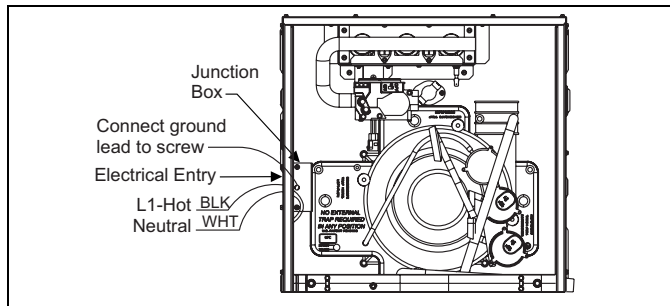

FIGURE 17: Electrical Wiring
installed into the unit opening and the junction box. In the junction box there is a black wire, a white wire and a green ground screw. Connect the power supply as shown on the unit's wiring label located on the inside of the blower compartment door, or the wiring schematic in this section. Connect the black wire to L1 (hot) from the power supply. Connect the white wire to neutral. Connect the ground wire (installer-supplied) to the green (equipment ground) screw. An alternate wiring method is to use a field-provided 2" (5.1 cm) x 4" (10.2 cm) box and cover on the outside of the furnace. Route the furnace leads into the box using a protective bushing where the wires pass through the furnace panel. After making the wiring connections replace the wiring box cover and screws. Refer to Figure 17.
3. The furnace's control system requires correct polarity of the power supply and a proper ground connection. Refer to Figure 17.